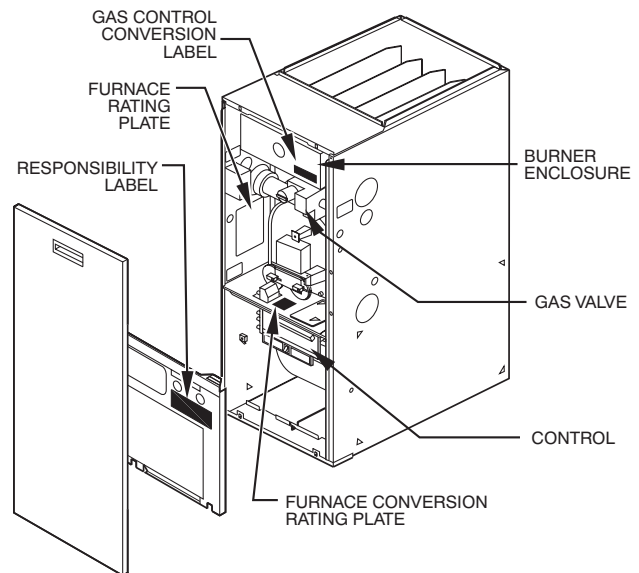

Fig. 68 - Furnace Label Locations
1. Fill in Conversion Responsibility Label 334263-205 and apply to Blower Access Door of furnace as shown. (See Fig. 68.) Date, name, and address of organization making this conversion are required.
2. Attach appropriate Conversion Rating Plate Label 334263-201 or 334263-206, see Fig. 68 on blower shelf as shown.